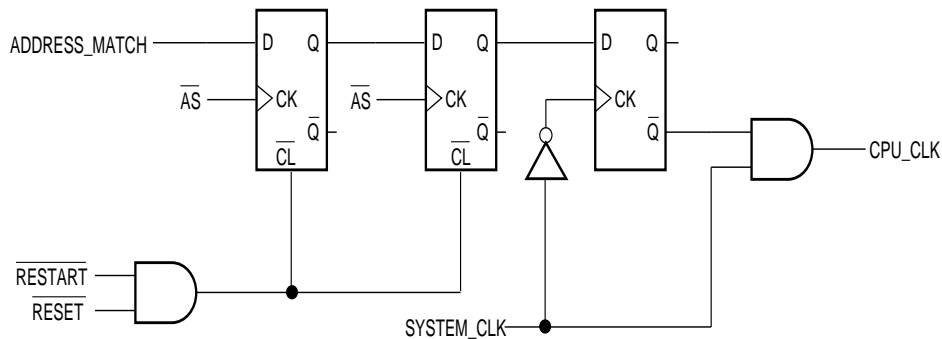
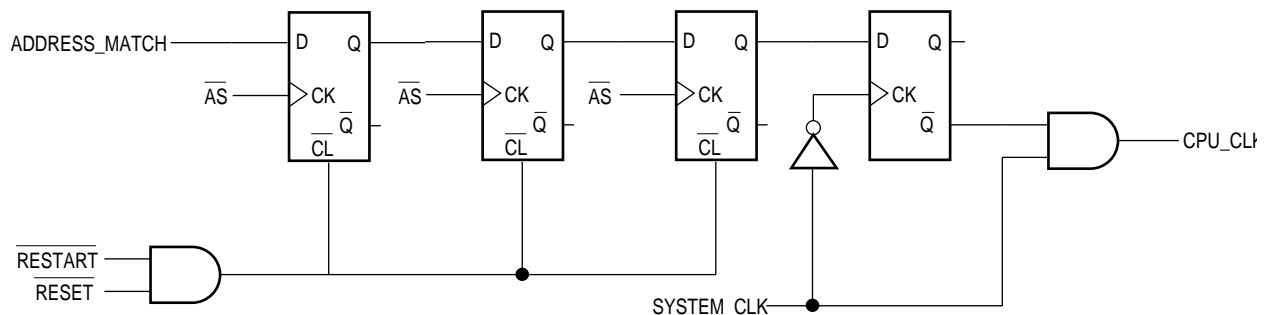

Figure 2. MC68SEC000 Low-Power Circuitry for 16-Bit Data Bus
Figure 3. MC68SEC000 Low-Power Circuitry for 8-Bit Data Bus
1. Externally detect a write to the low-power address. You select this address which can be any address in the 16 Mbyte addressing range of the MC68SEC000. A write to the low-power address can be detected by polling A23–A0, R/W, and FC2–FC0. When the low-power address is detected, R/W is a logic low, and the function codes have a five (101) on their output, the processor is writing to the low-power address in supervisor mode and user-designed circuitry should assert the ADDRESS_MATCH signal shown in Figure 2 and Figure 3.
2. Execute the STOP instruction. The external circuitry shown in Figure 2 and Figure 3 will count the number of bus cycles starting with the write to the low-power address and will stop the processor clock on the first falling edge of the system clock after the bus cycle that reads the immediate data of the STOP instruction. Figure 3 has one more flip-flop than Figure 2 because the MC68SEC000 in
6.0 MC68SEC000 AC ELECTRICAL SPECIFICATIONS — CLOCK TIMING (See Figure 2)
(GND = 0 V; $T_A = T_L$ to T_H ; see Figures 3 and 4)